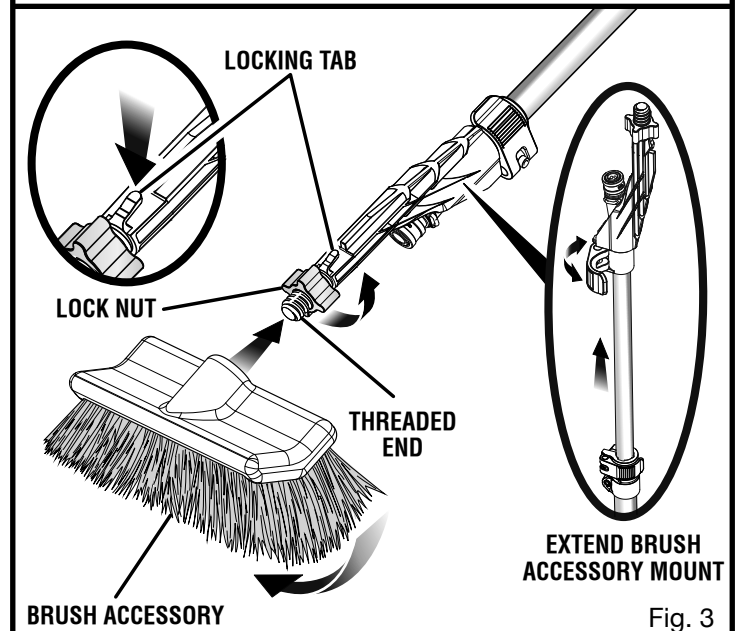

Fig. 3
- Open the lock lever on the brush accessory mount, slide it away from the trigger handle as far as possible, then close the lock lever to secure as shown in fig. 3.